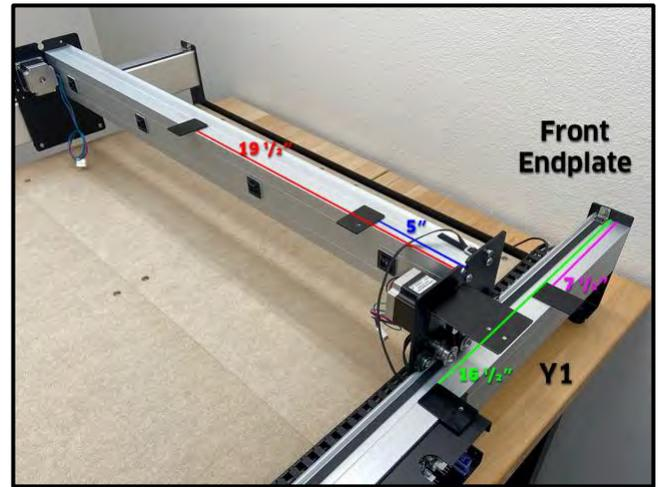

Figure 20
1. Attach one (1) middle support plate and one (1) tail support plate onto the X-rail. See **Fig. 20** (image from rear).
2. Attach one (1) middle support plate and one (1) tail support plate onto the Y1-rail. See **Fig. 20**.